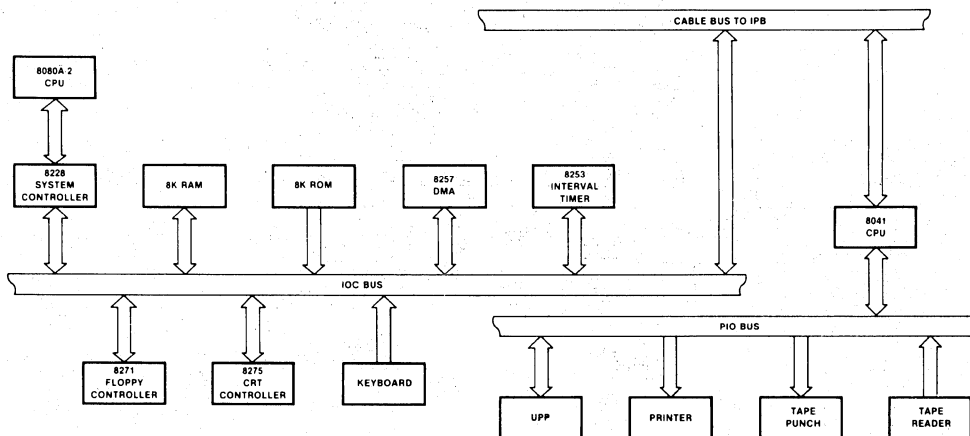

Figure 1. I/O Controller (IOC) Block Diagram for the Model 120 Intellec® Series II Microcomputer Development System
**CPU Cards** — The master CPU card contains its own microprocessor, memory, I/O, interrupt, and bus interface circuitry, fashioned from Intel's high-technology LSI components. Known as the integrated processor board (IPB), it occupies the first slot in the cardcage. A second, slave CPU card, is responsible for all remaining I/O control, including the CRT and keyboard interface and floppy disk control. This card, mounted on the rear panel, also contains its own microprocessor, RAM and ROM memory, and I/O interface, thus in effect creating a dual processor environment. Known as the I/O controller (IOC), the slave CPU card communicates with the IPB over an 8-bit bidirectional data bus, thus leaving the remaining 5 slots in the cardcage available for system expansion. A block diagram of the IOC is shown in Figure 1.